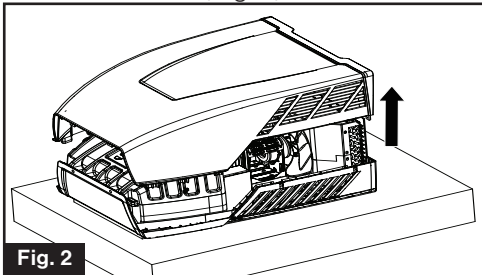

Fig. 2
2. Remove the top cover and place it on a flat surface. (Fig. 2)